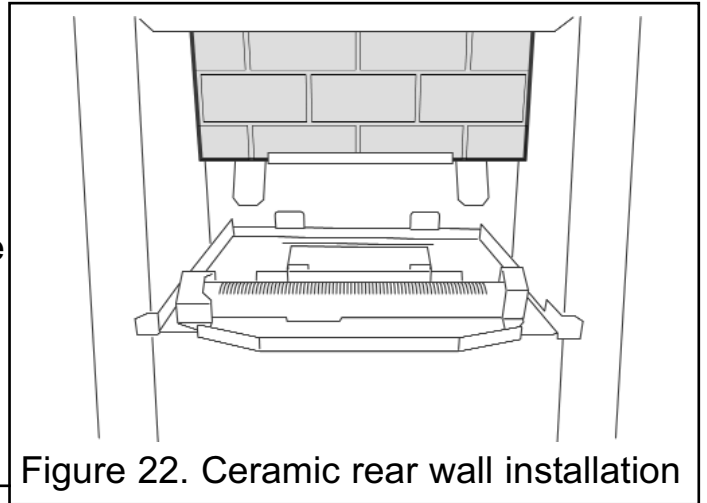

Figure 22. Ceramic rear wall installation
1. Fit the ceramic rear wall inside the “L” bracket on the back face of the burner compartment. Push the ceramic wall flat against the back face of the burner compartment (See figure 22).